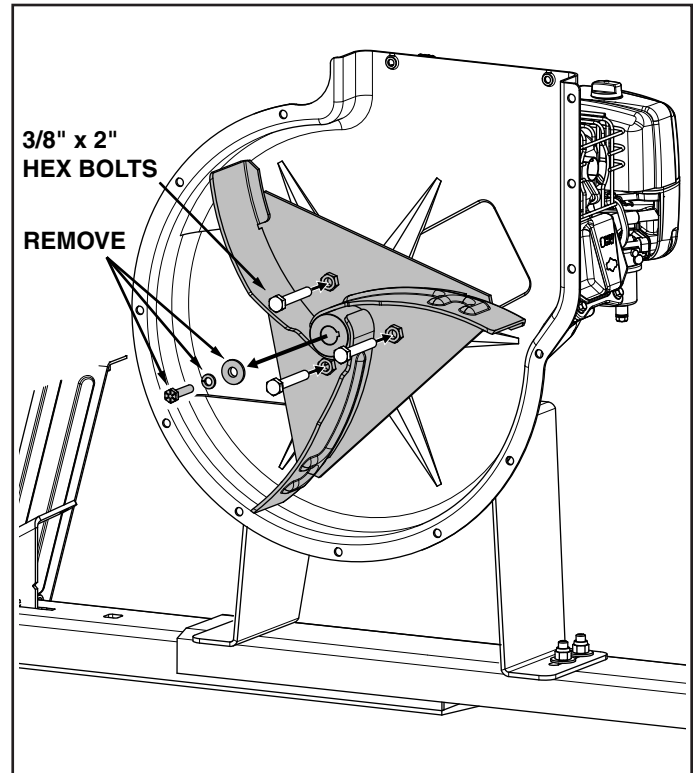

FIGURE 20
- Remove the bolt from the impeller hub. See figure 20.
- Screw three 3/8" x 2" full thread bolts into the three nuts welded to the impeller until they contact the housing behind the impeller. See figure 20.